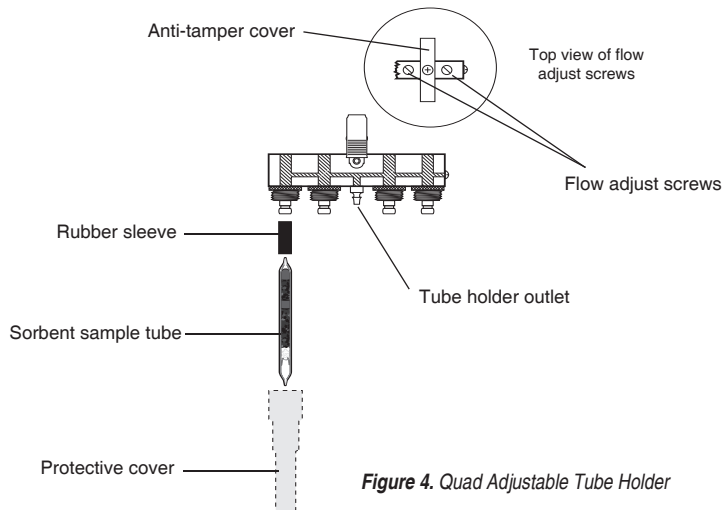

Figure 4. Quad Adjustable Tube Holder
Using Multiple-tube Adjustable Tube Holder (Figure 4)
4. Connect the adjustable tube holder (Figure 4) to the pump inlet (Figure 1) using the attached 1/4-inch Tygon tubing. See right.
5. Insert an opened sorbent tube into each rubber sleeve of the tube holder (Figure 4). **Ensure that the arrow on each tube points toward the tube holder.**
7. Using flexible tubing, connect the exposed end of the first sorbent tube to the calibrator outlet (suction port). Loosen and turn the brass flow adjust screw (*Figure 4*) on the port of the appropriate tube holder (**counterclockwise to increase, clockwise to decrease**) until the desired flow rate is achieved. **Note:** For tri and quad models, first rotate each anti-tamper cover (*Figures 4 and 5*) to expose the flow adjust screws, then adjust the appropriate one until the calibrator indicates the desired flow.